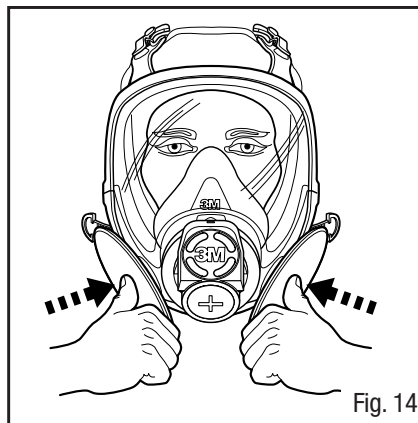

Fig. 14
1. Place your thumbs onto the center portion of the filters, restricting airflow through filters and inhale gently. If you feel facepiece collapse slightly and pull closer to your face with no leaks between the face and facepiece, a proper seal has been obtained (Fig. 14).